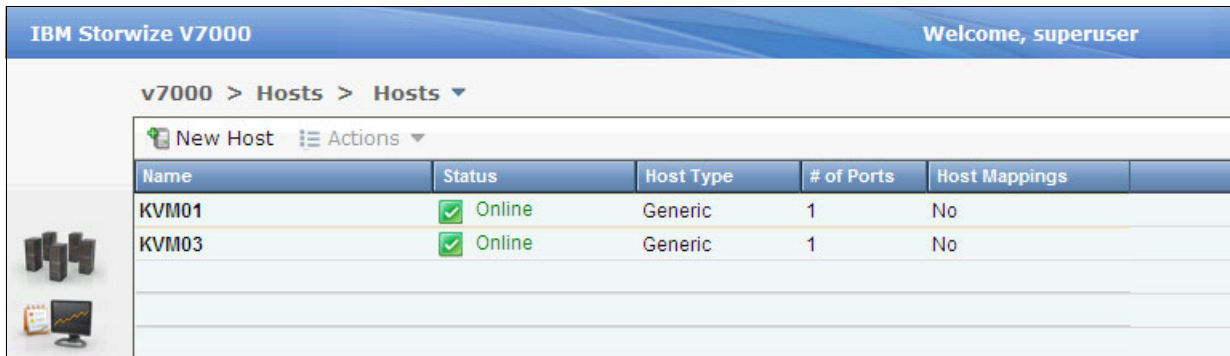

Figure 9-48 Host map creation checking
7. Go back to the host view to check that your host was created as shown in Figure 9-48.